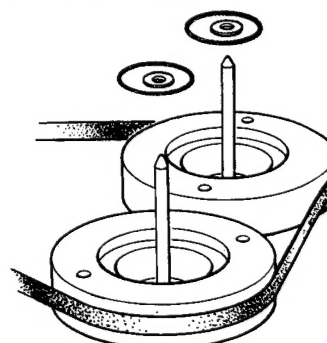

Fig. 3.11 Plastic washers for the capstans
9. If the flywheels do drop out of their bearings, take care to replace them properly. There must be a small plastic washer on each of the capstans, see Figure 3.11.